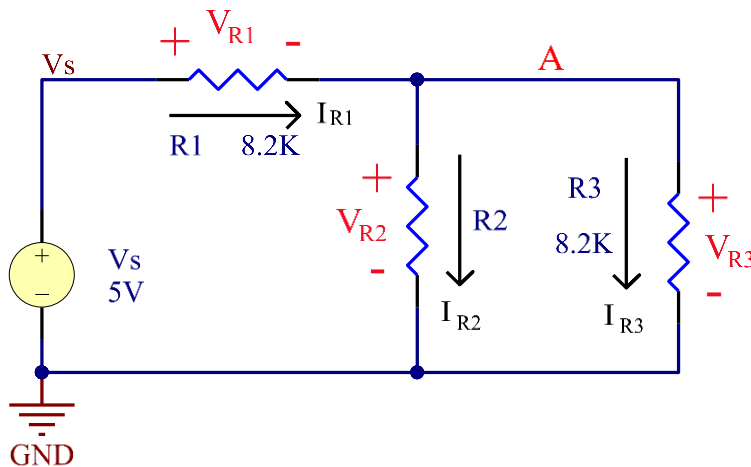

Figure 2
- b) Build the circuit in Fig. 2. Connect the Power Supply to R_1 and GND.
Table 1: Measured and Calculated Data for Fig. 2
Table 2: Calculated Data and Errors for Fig. 2.
1. Compare the “Theoretical Currents” to the “Measured Currents” for Fig. 2. Explain why they may not be exactly equal. Verify that Kirchhoff’s Current Law applies to this circuit.
2. For Figure 2, write and verify KVL for the loop containing Vs, R1 and R2. Use the voltage values that you measured in step 2 of this lab.
3. Write and verify KCL at Node A of the circuit shown in Figure 2. Use the “Calculated Current” values you entered in Table 1.